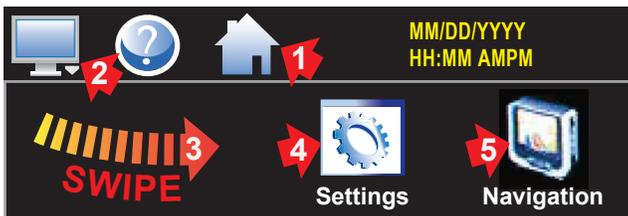

Figure 16. Settings & Navigation Icons
1. Touch: (1)Home (2)Monitor (3)swipe left-to-right, touch (4)Settings (5)Navigation (Figure 16).